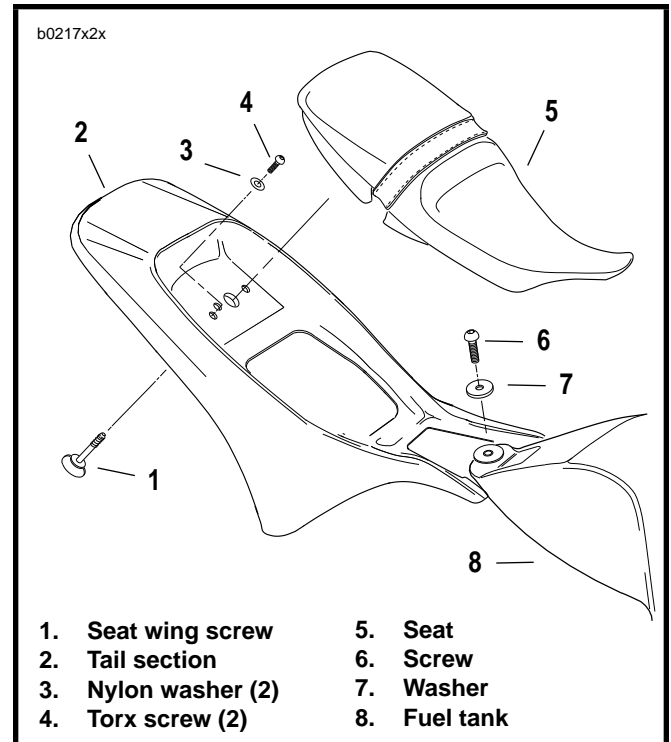

Figure 2-63. Tail Section
1. See Figure 2-63. Loosen seat wing screw (1). Remove seat by pulling up and back.
2. Remove two screws (4) and nylon washers (3).
3. Loosen fuel tank screw (6).
4. Lift fuel tank (8) and withdraw tail section.
2. See Figure 2-63. Install two screws (4) and nylon washers (3).